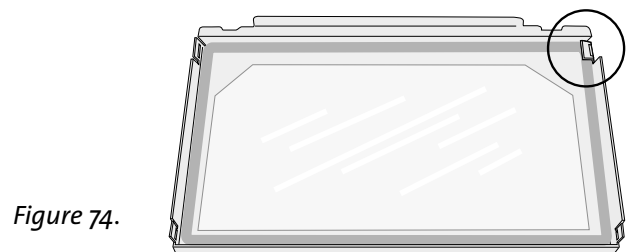

Figure 74.
5. The glass panel is held in place by four tabs on the frame. Use a screwdriver or small pliers to pry these up enough to release the glass panel. See fig. 74.